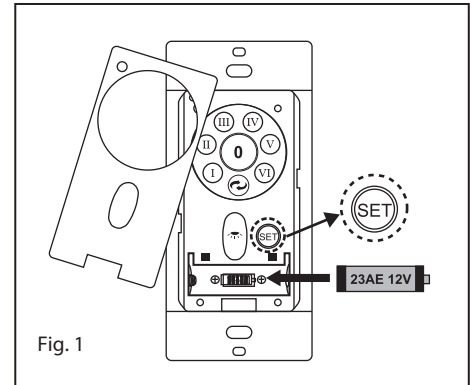

Fig. 1
- 1 Insert the receiver into the ceiling mounting bracket with the flat side of the receiver facing the ceiling. (Fig. 1) For best performance, make sure the Black Antenna, on the end of the receiver, remains extended and not tangled with any of the electrical wires.
- 1 Remove the existing wall plate and the old switch from the wall outlet box. (Fig. 1)
Follow the below steps to use the set button. (Fig. 1)